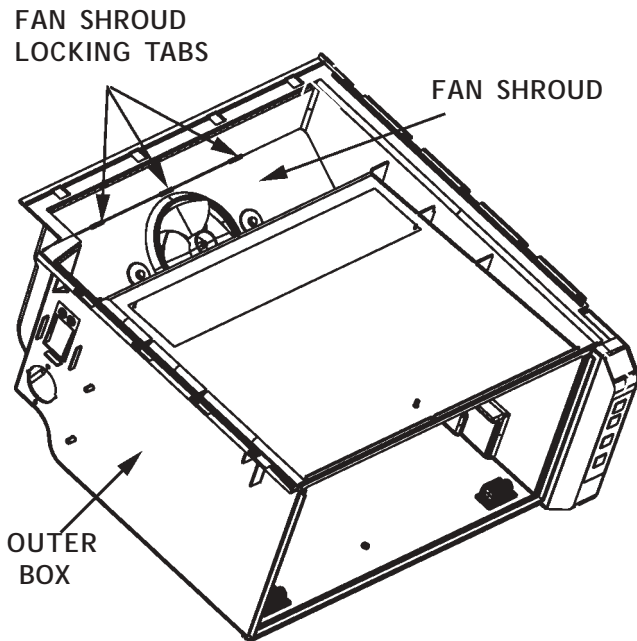

Figure 2-7
- Release the three locking tabs fan shroud by pushing back on the outer box assembly and pulling forward on the fan shroud. (See Figure 2-7)